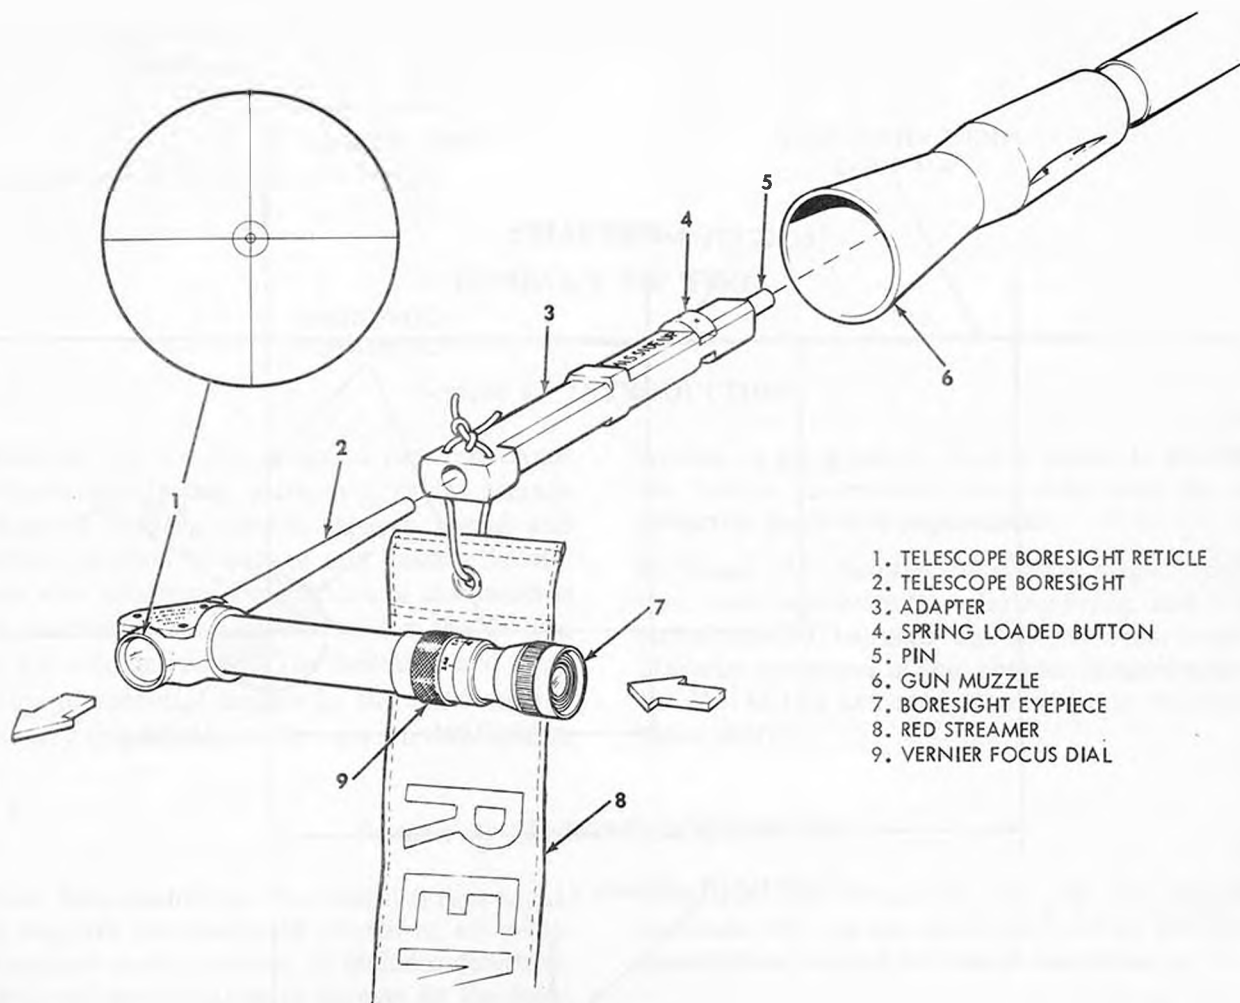

Figure 23. Boresight device.
c. Insert shank of boresight telescope into socket of adapter (fig 23).